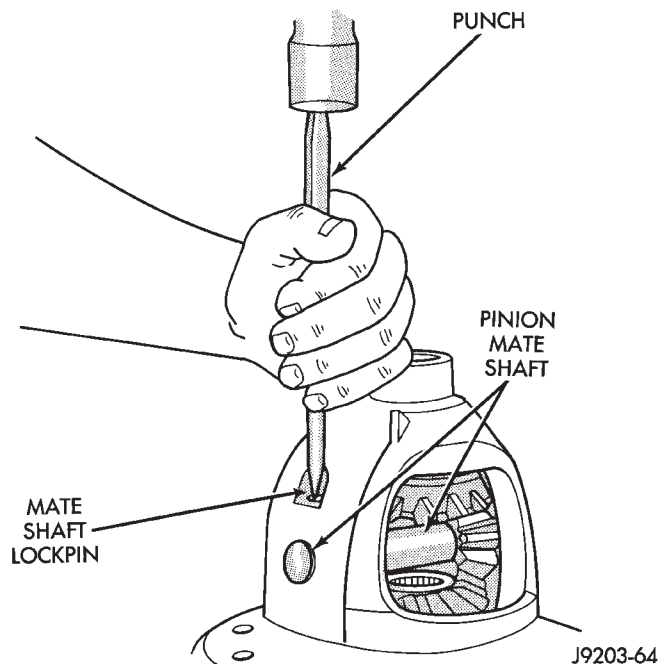

Fig. 39 Pinion Mate Shaft Roll-Pin Installation
- (1) Install the differential side gears and thrust washers.
- (2) Install the pinion mate gears and thrust washers.
- (3) Install the pinion gear mate shaft.
- (4) Align the hole in the pinion gear mate shaft with the hole in the differential case.
- (5) Install and seat the pinion mate shaft roll-pin in the differential case and mate shaft with a punch and hammer (Fig. 39). Peen the edge of the roll-pin hole in the differential case slightly in two places, 180° apart.